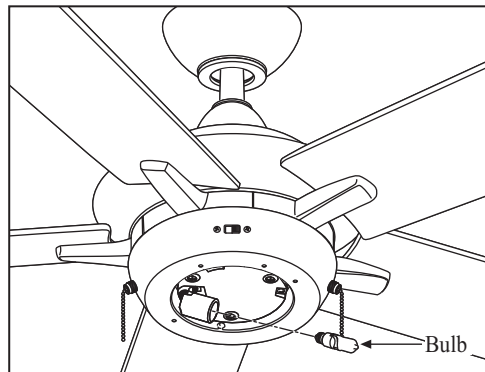

Figure 16
5. Install 100 watt halogen bulb (provided) to the light socket. (Fig. 16)